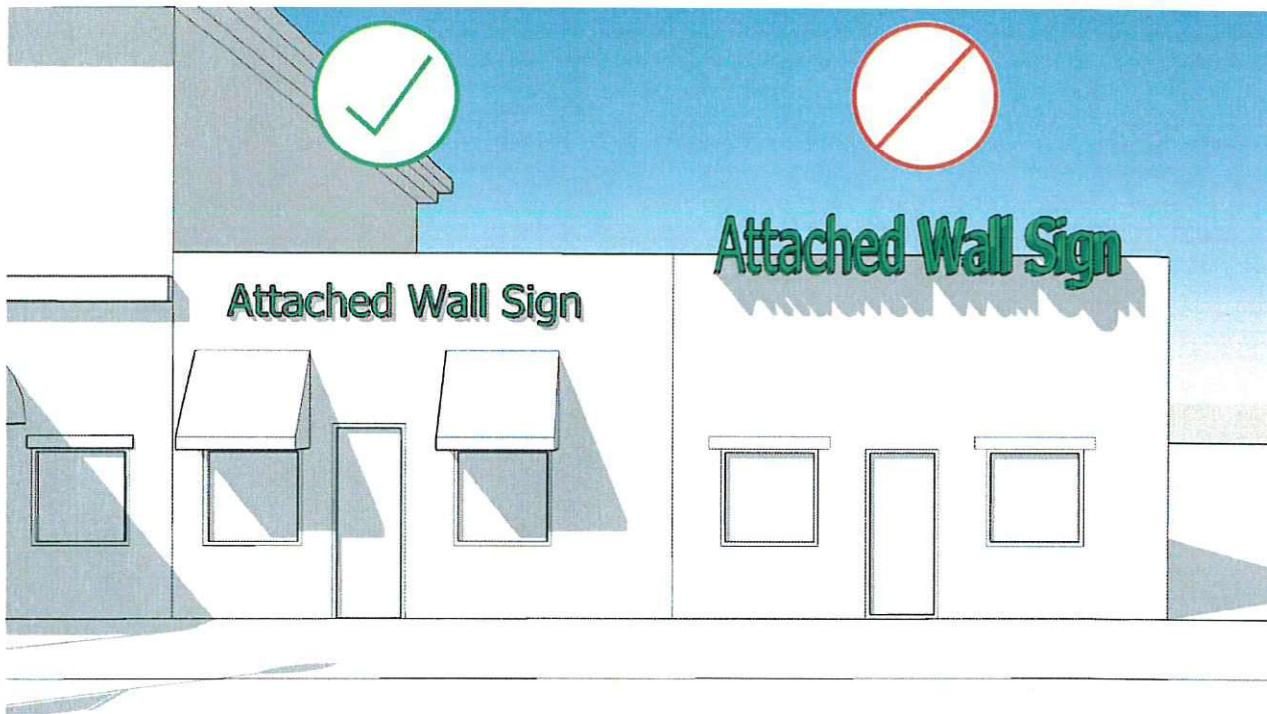

Figure 17
- iii. No part of the sign or the sign structure shall project above or below the highest or lowest part of the wall upon which the sign is mounted or painted (*See Figure 17*).